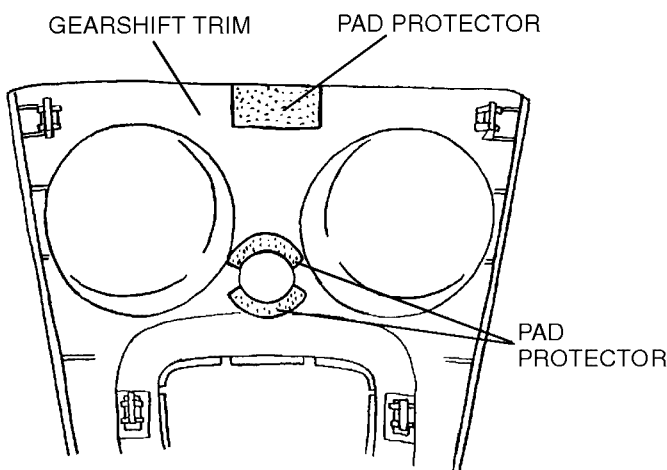

FIGURE 15
5. Cut the pad protectors and attach them to the underside of the gearshift trim (refer to Figure 15).